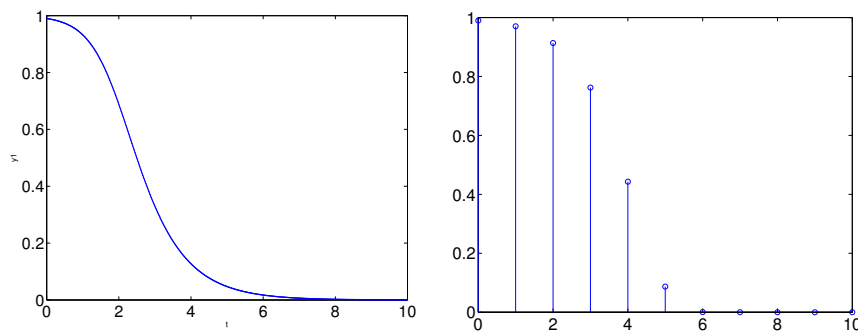

Figure 2.4: Simulation of `SimpleCTSystem` on the left, and `SimpleDTSystem` on the right.
*These generate the plots in Figure 2.4*